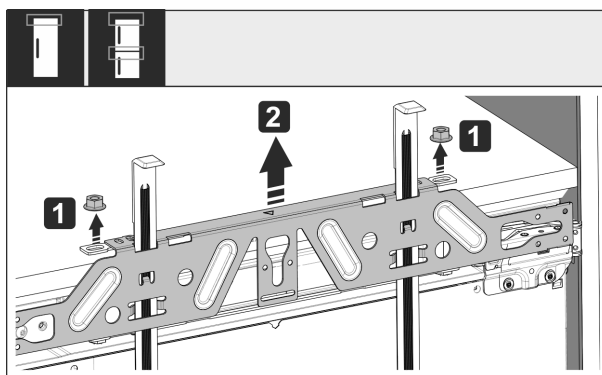

Fig. 50
- ▶ Loosen the lock nuts Fig. 50 (1) and remove the crosspiece.
- ▶ Remove the crosspiece Fig. 50 (2).